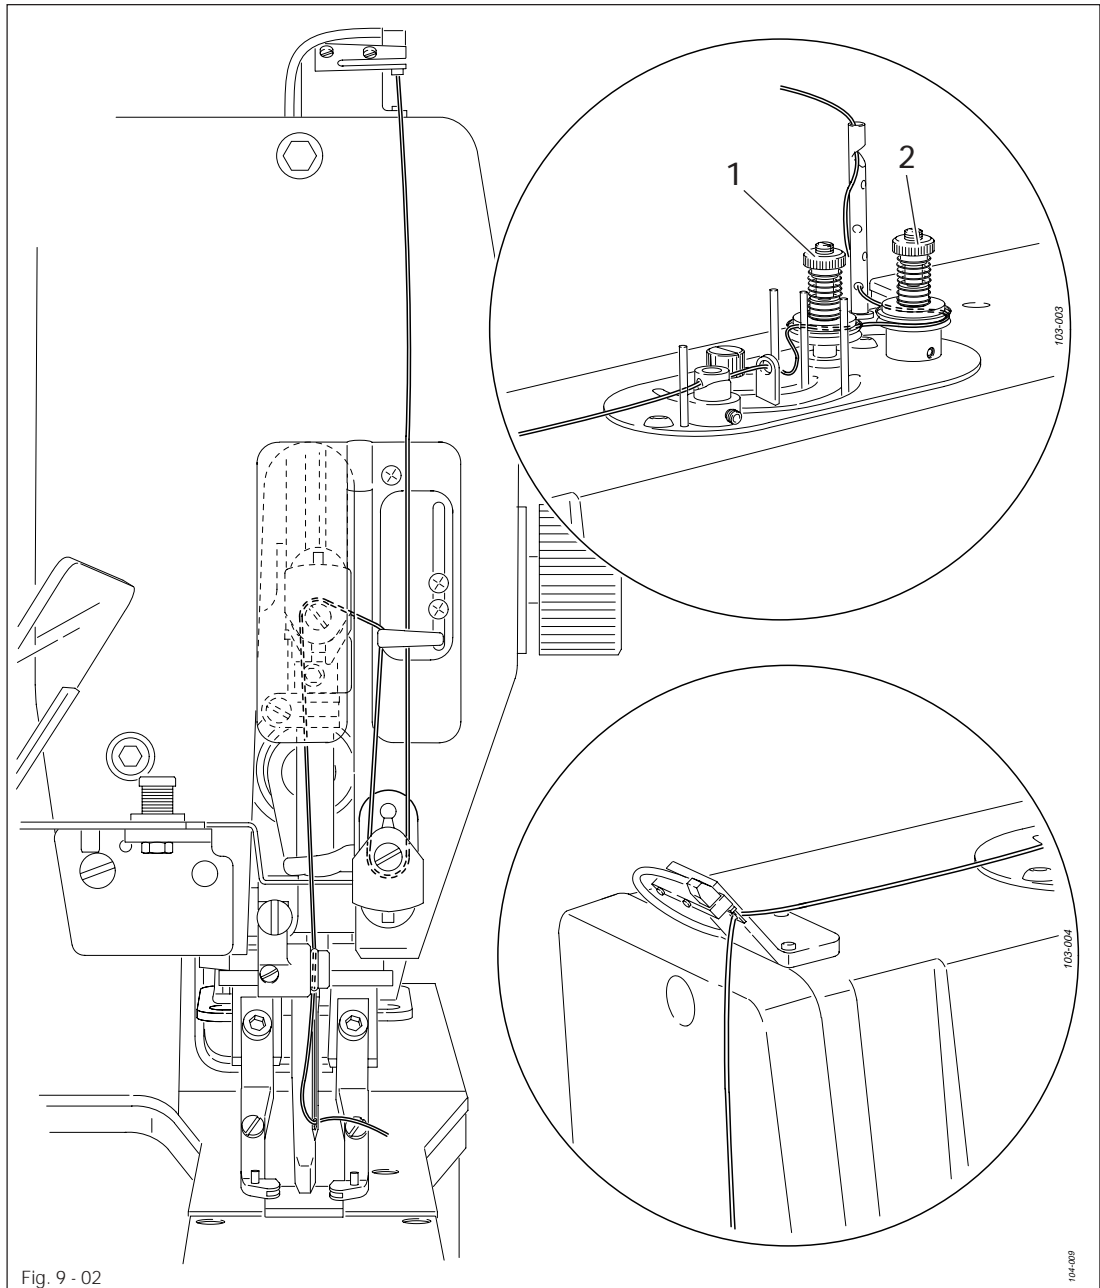

Fig. 9 - 02
- When entering the code number this key corresponds to the figure 9.